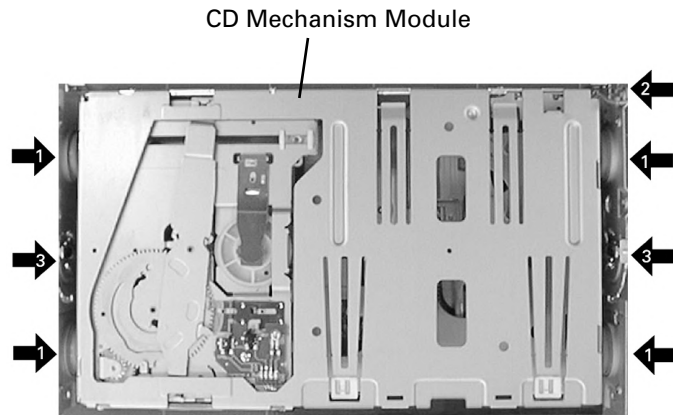

Fig.5
-  Remove the four dampers(Fig.5).
-  Disconnect the connector(Fig.5).
-  Remove the two springs(Fig.5).